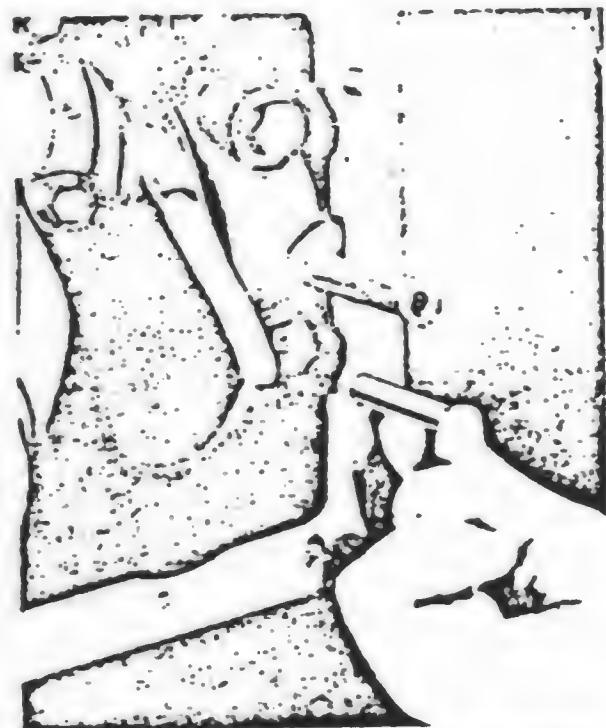

FIG. 27 REAR BEARING CAP PACKING
(3) Should it be necessary to install a new seal in the crankcase, it will require the removal of the engine from the housing and the removal of the crankshaft. The same procedure should be followed when installing a crankcase seal as when installing a seal in the bearing cap.
(4) When installing rear main bearing cap to case, a little sealer should be put on the faces of the cap where it fits against the case. The rubber seal packing that goes between the main bearing cap and the case is cut to a given length and will protrude down from the case approximately  $1\frac{1}{4}$ ". When the oil pan is installed it will force this seal tightly into the holes and prevent any oil from leaking from the engine into the generator adapter. See (Fig. 27).